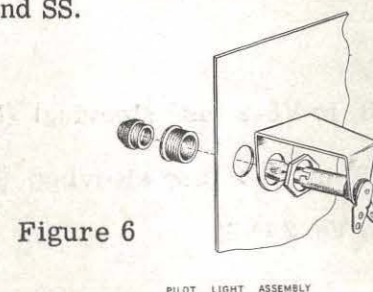

Figure 6
- (✓) Install the pilot lamp PP, following Figure 6 for assembly details. Insert the #47 lamp.